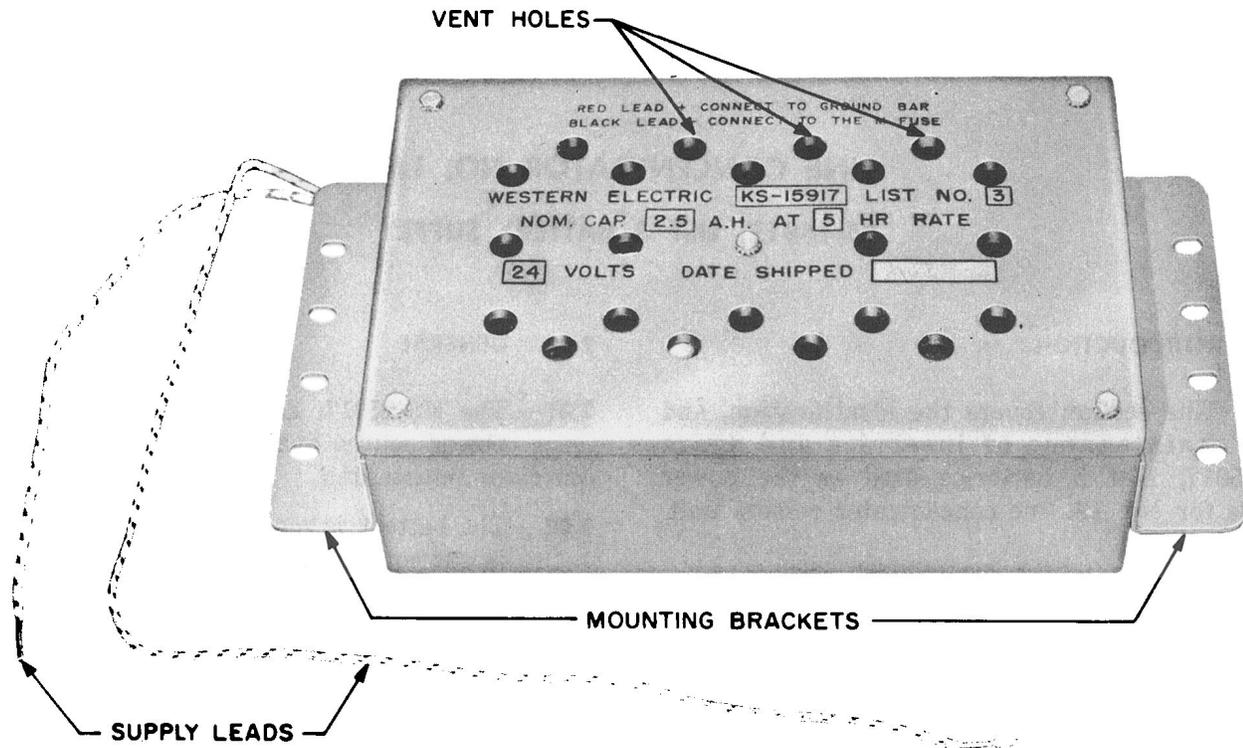

Fig. 2 – KS-15917, List 3 Battery
3.01 The KS-15917, List 3 battery is a 24-volt, 19-cell, sealed battery. The electrodes are made of nickel-cadmium using potassium-hydroxide for electrolyte. (See Fig. 2.)